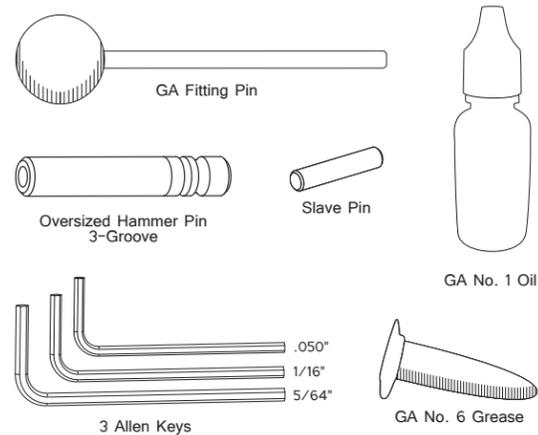

Figure 2: Ancillaries
- Ancillaries ***See Figure 2: Ancillaries***
- Geissele Automatics (GA) Fitting Pin (3 1/4" long)